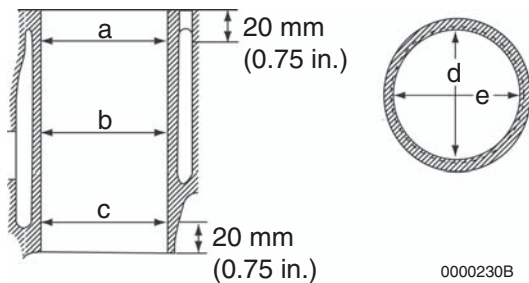

Figure 5-114
5. Take measurements at three places (**Figure 5-114, (a, b, c)**), and in two directions (**Figure 5-114, (d and e)**) in each cylinder.